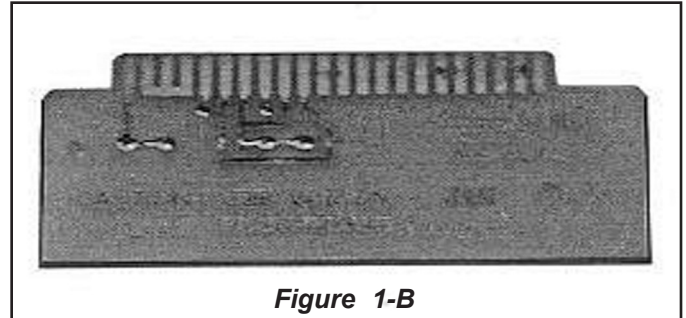

Figure 1-B
3. Using a carpenters square, advance the radius die until the back gates are at a true 90 degrees, contacting the inside of the square evenly across the front. (See figure 1-A)
The back gates on digital models should close at a slight negative angle. This is to compensate for the initial 1/8" of forward travel (or movement) the gate needs to allow the trip arm to deactivate the zero angle micro switch and start the counting process. (See figure 1-B)
(See figure 1-B)
All "BA" and "BAS" models incorporate an electronic solenoid valve that controls operation of the top cylinder for all bending functions. The solenoid valve is located to the rear of the machine, just below the oil filter. (See figure 1-C)